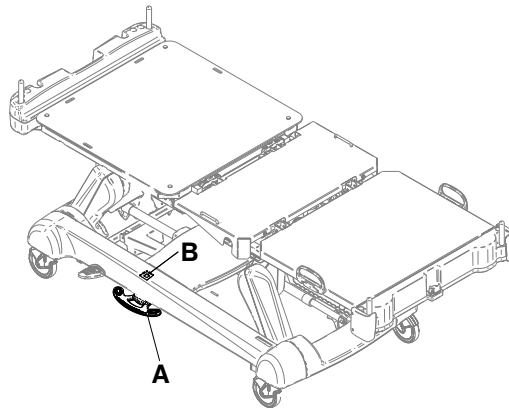

Figure 6: Brake pedal window
2. Fully depress the brake pedal (A) until **Brake** appears in the brake pedal window (B) (Figure 6 on page 20).
To release the manual brakes, depress the pedal until **Neutral** or **Drive** appears in the brake pedal window (B) (Figure 6 on page 20).